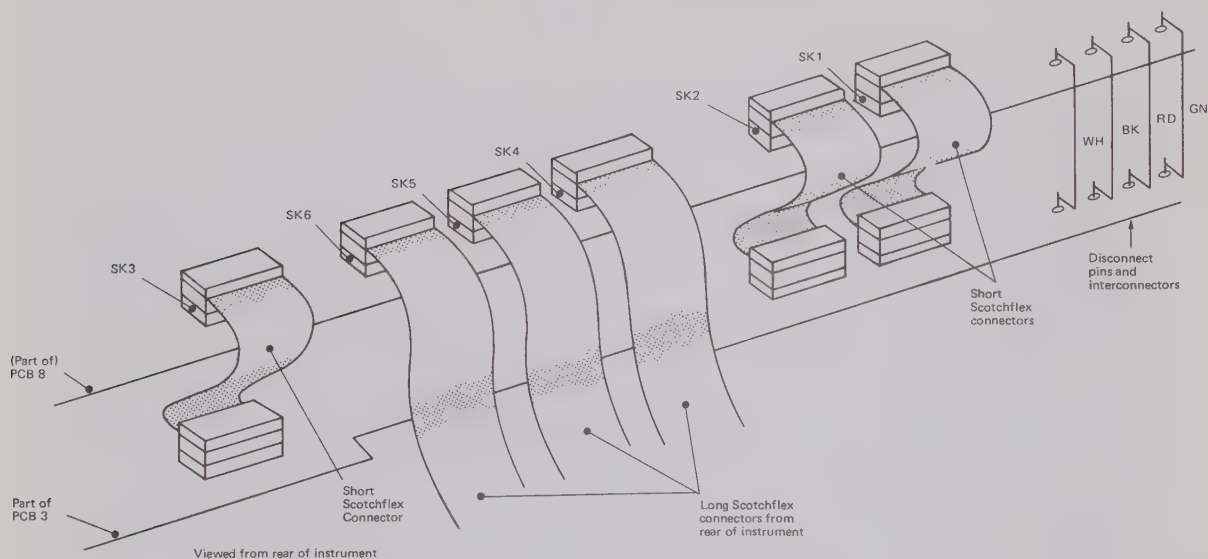
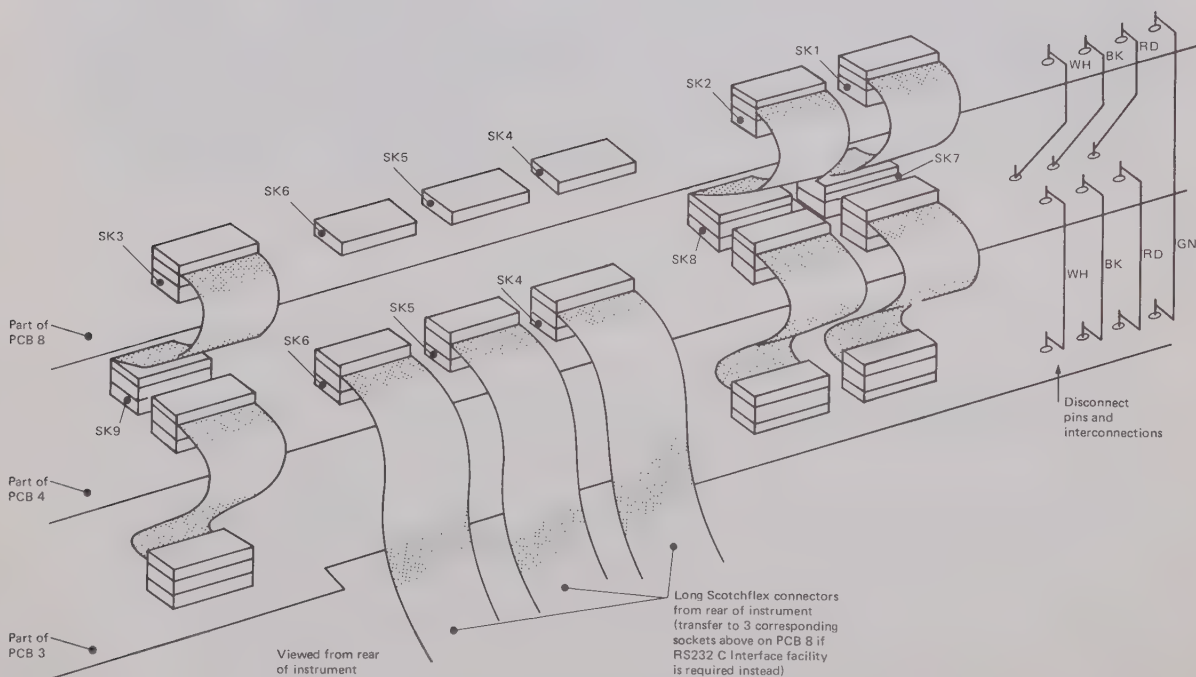

Fig. 4 Interconnections to PCB 8 (if PCB 4 not fitted)
Fig. 5 Interconnections to PCB 8 (if PCB 4 fitted)
7. Fit the 4 disconnect leads — red (RD), white (WH), black (BK) and green (GN) — to the +5VA, 0V, +5VB and 50Hz disconnect pins on pcb 3/4 as appropriate. If pcb 4 is not fitted see Fig. 4, otherwise see Fig. 5.
9. Connect the short Scotchflex connectors to the sockets on pcb 8 which are immediately in line with each connector (Figs. 4 and 5). Similarly connect the long Scotchflex connectors, see note below.
10. Connect the disconnect leads to pcb 8 as shown in Fig. 4 or 5.